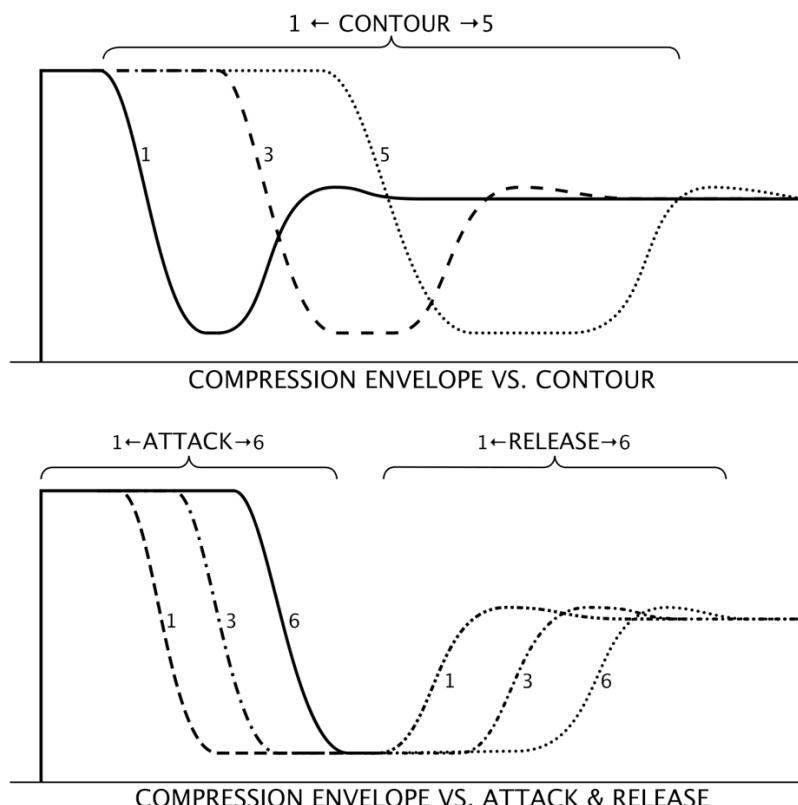

FIGURE 3: TIMING CONTROLS
**TIMING:** Attack, Release and Contour all interact to control the timing and shape of the response. Contour affects the entire curve in broad strokes while Attack and Release allow finer adjustment of the beginning and end respectively. See Figure 3 below. The timing controls have a cumulative or overlapping effect so the depth of the Contour response is more pronounced when they're all on similar settings/numbers (i.e. all fast or slow).